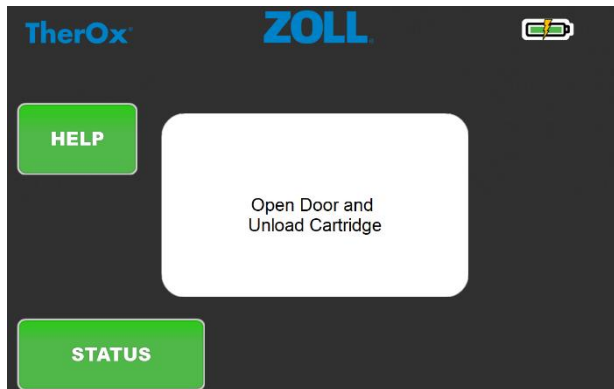

Figure 22. Prompt to Unload Cartridge
5. When the screen displays the "Open Door and Unload Cartridge" prompt (**Figure 22**), open the cartridge compartment door, unplug the transducer cable from the transducer port, and then remove the cartridge.